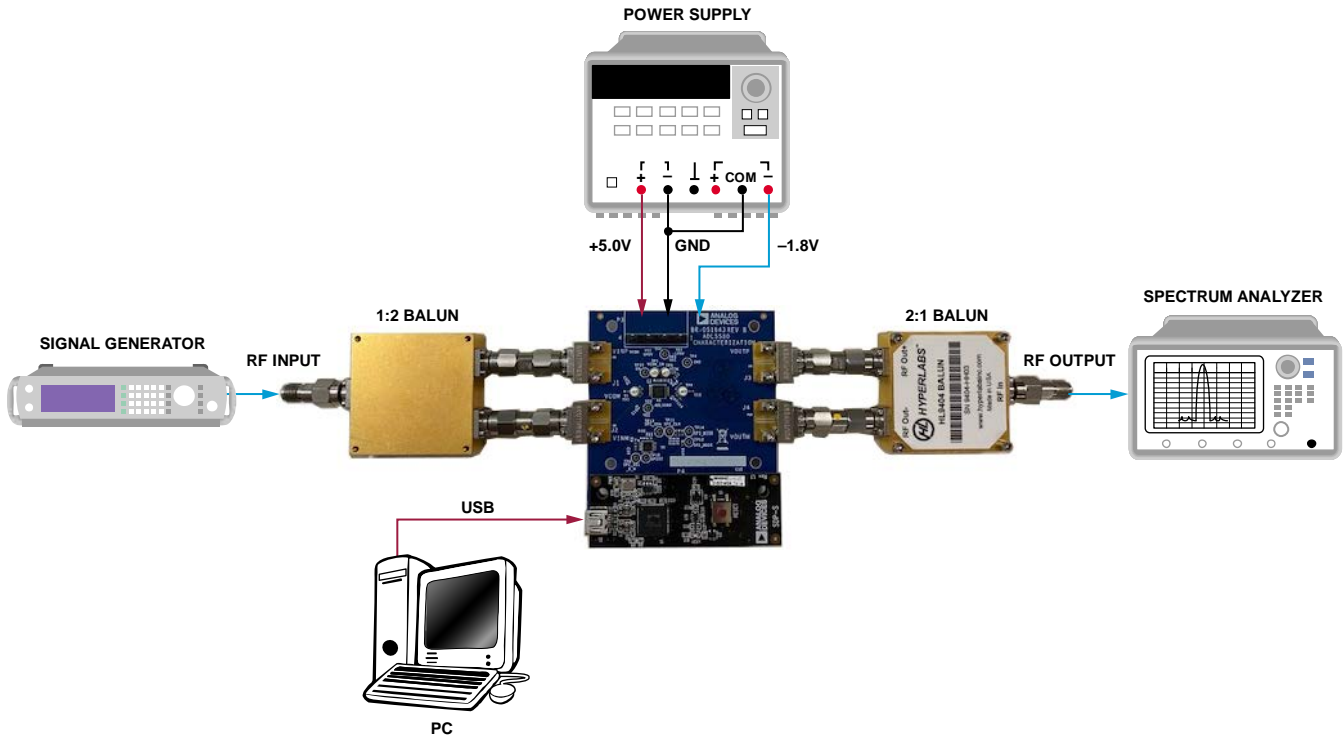

Figure 5. ADL5580-EVALZ Measurement Setup (Option)
Signal Generator (Option)	Set the source to a 100 MHz frequency with an output level of -20 dBm (see Figure 5)
Spectrum Analyzer (Option)	Connect to port through a 2:1 balun (see Figure 5)
- Configure the hardware according to the Hardware Setup section and what is shown in Figure 5.